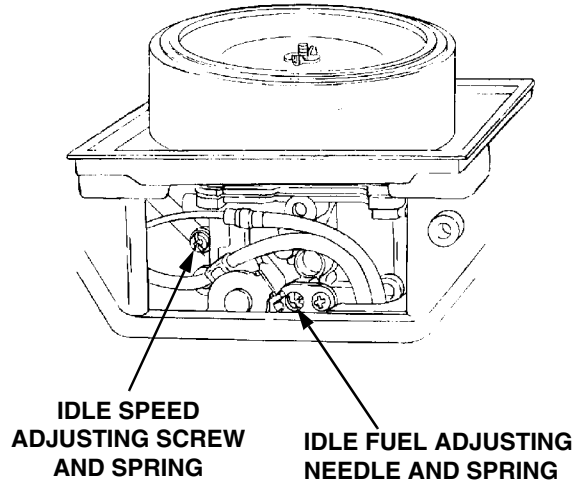

Figure 17
Adjust the carburetor idle fuel mixture in the order stated as follows (Refer to Figure 17):
2. **Idle Speed Setting:** Place the throttle control into the “idle” or “slow” position. Set the low idle speed to **1200 rpm** (± 75 rpm) by turning the low idle speed adjusting screw in or out. Check the speed using a tachometer (See Figure 17).